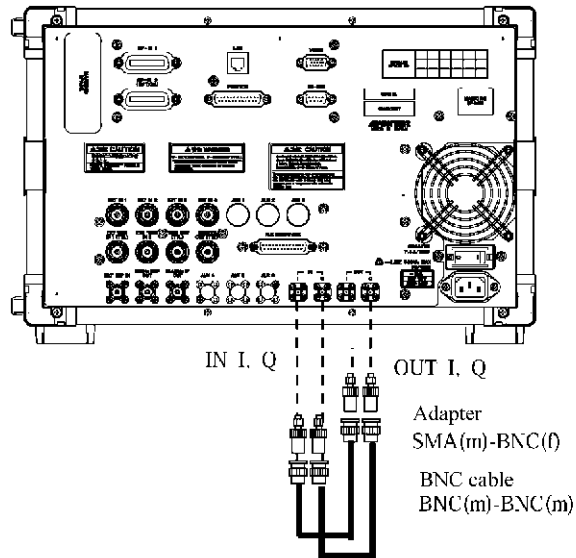

Figure 8-37 External IQ Input Verification Connection Diagram
2. Connect the instrument as shown in Figure 8-37.